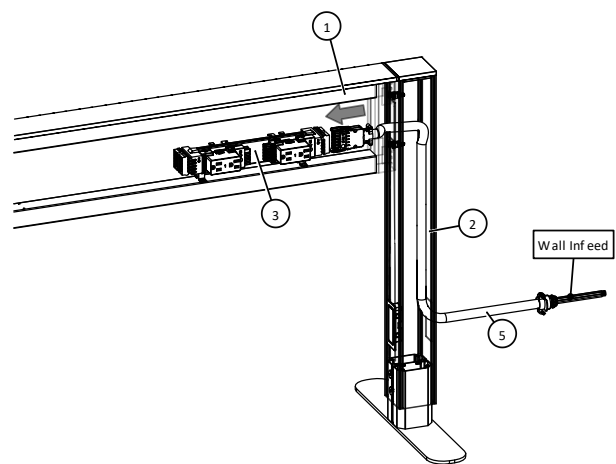

Figure 3
STEP 3: Connect the wall infeed to the power distribution box (3), as shown in Figure 3. Note that there are an arrow and the letter "N" to indicate the correct